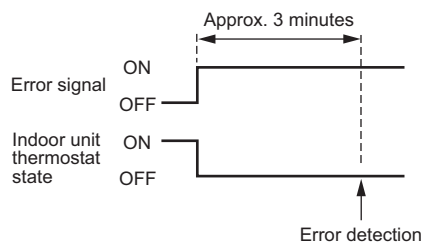

Fig. 5-7
- ③ Indoor unit operation when error signal input (Fig. 5-7)